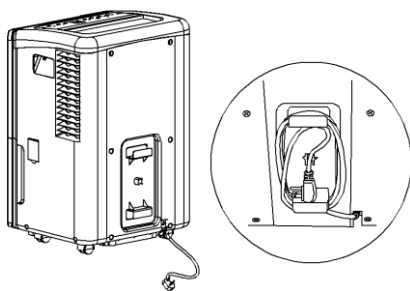
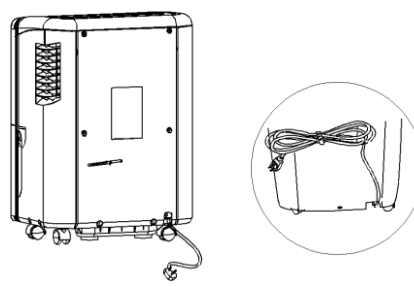

Fig. 12a
Fig. 12b
- Wrap the cord around the power cord bracket (Fig.12a) or wrap the cord and secure it with the power cord strap (Fig.12b).